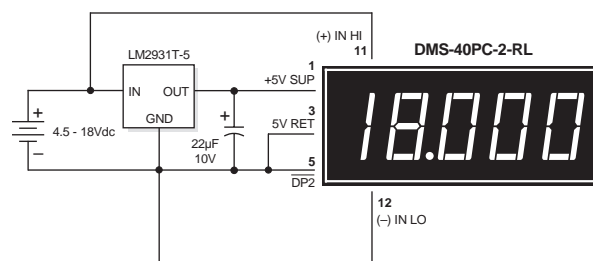

Figure 4. 4.5-18V Power Supply Monitor
- 3. Power Supply Monitoring:** One of the most widely used digital panel voltmeter applications is monitoring the output voltage of a system power supply — often the same supply that also powers the meter. The low-power, red LED DMS-40PC-2-RL, with its excellent 0.001Vdc resolution, can be configured to monitor power supplies with outputs in the range of 4.5-18Vdc. The circuit in Figure 4 uses a low-drop-out, three-terminal regulator (LM-2931T-5, in a TO-220 package, available from National Semiconductor) to provide regulated 5V power to the meter.